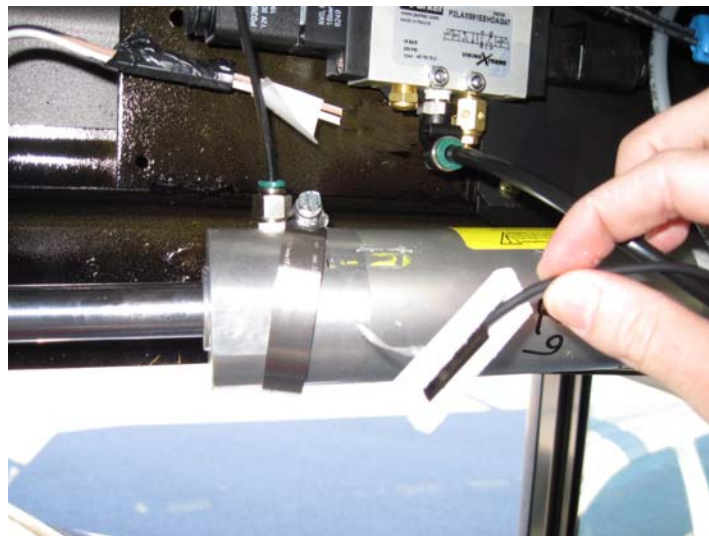

Figure 5
5. Remove and discard the band clamp, old entrance door position switch, and plastic housing. **Figure 5**